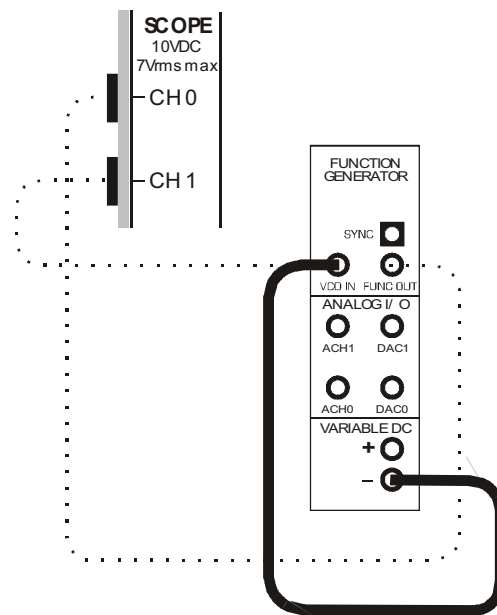

Figure 5
27. Modify the set-up as shown in Figure 5 below.